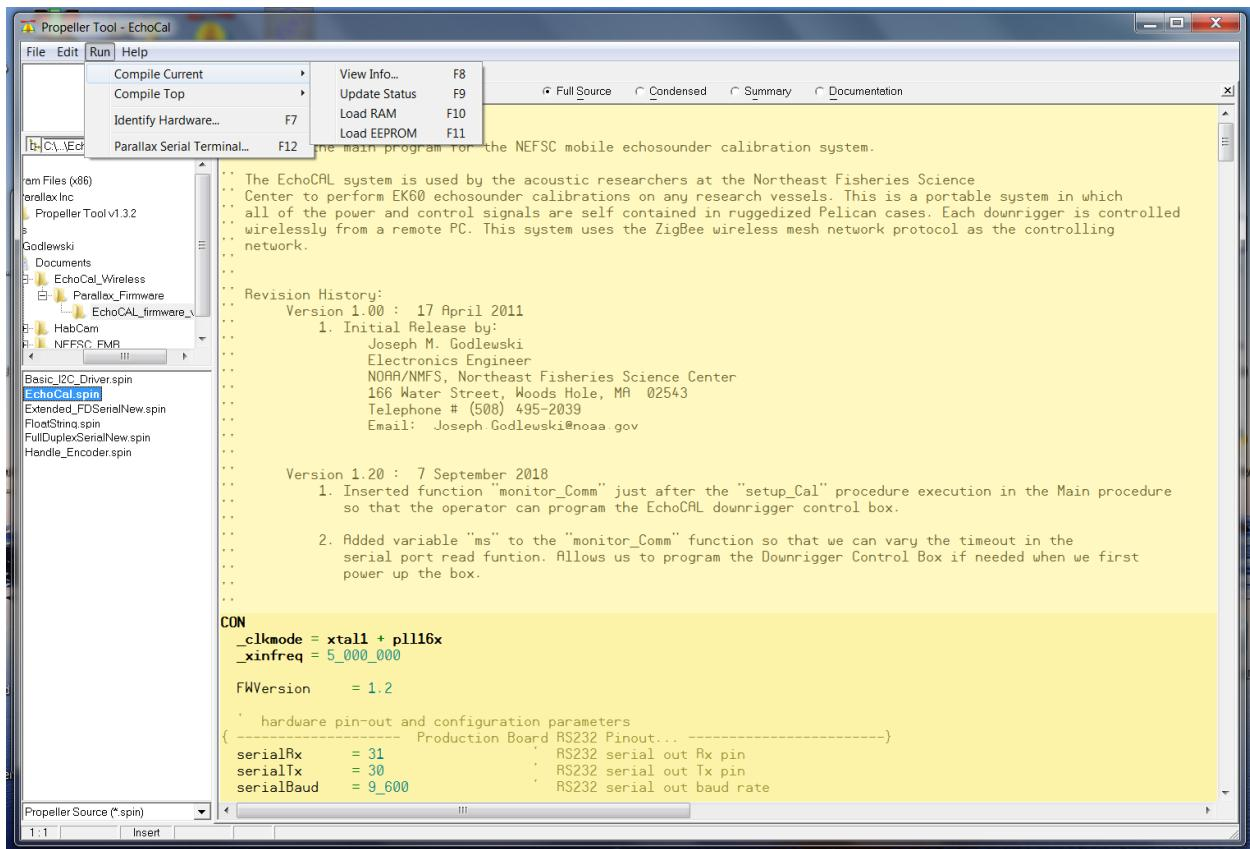

Figure 48: Compiling and uploading control box firmware.
- g. Select the **Run->Compile Current->Load EEPROM** menu item to install the firmware (Figure 48).